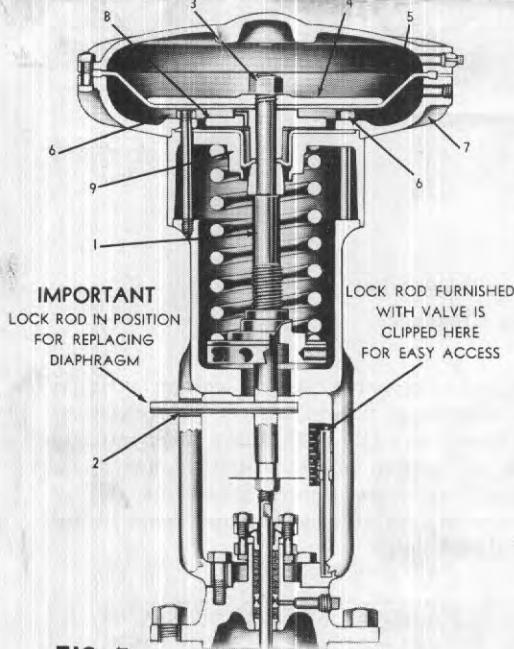

FIG. 7
Reverse Acting Superstructure -- See Fig. 7. Follow the same procedure to remove diaphragm cover. Then lock upper stem (1) by inserting lock rod through hole in yoke (2) and hole in lower end of upper stem to prevent damage to upper stem seal (9) when replacing diaphragm or seal. Remove self-locking nut (3), diaphragm disc (4) and diaphragm (5). Then remove spacer stud nuts (6), diaphragm base (7), the collar (8) on top of seal, and stem seal (9). Examine seal (replace if necessary). Reinstall seal and diaphragm base. Before tightening spacer stud nuts, drop collar in position on top of seal. Tighten spacer stud nuts. Install diaphragm with hole in center around raised face on end of collar. Install diaphragm disc, be sure that lower end of upper stem is locked with rod, and then tighten self-locking nut. Replace diaphragm cover and remove rod.
17. When it is desired to reverse the action of single seated diaphragm control valves, it is only necessary to replace the superstructure above the bonnet with a superstructure of opposite action. A single "D" in the control valve class indicates superstructure is reverse acting (air applied on top of diaphragm) i.e. Class D-2. When control valve class contains a double "DD" the superstructure is reverse acting (air is applied to underside of diaphragm) i.e. Class DD-2. See Fig. 7. To change valve action loosen stem lock nut under indicator disc. Remove capscrews securing superstructure to bonnet, turn superstructure in a counter clockwise direction until upper stem is clear of lower stem. Install superstructure of opposite action by reversing above procedure and following steps 13 through 15 for reassembling and adjusting valve travel.